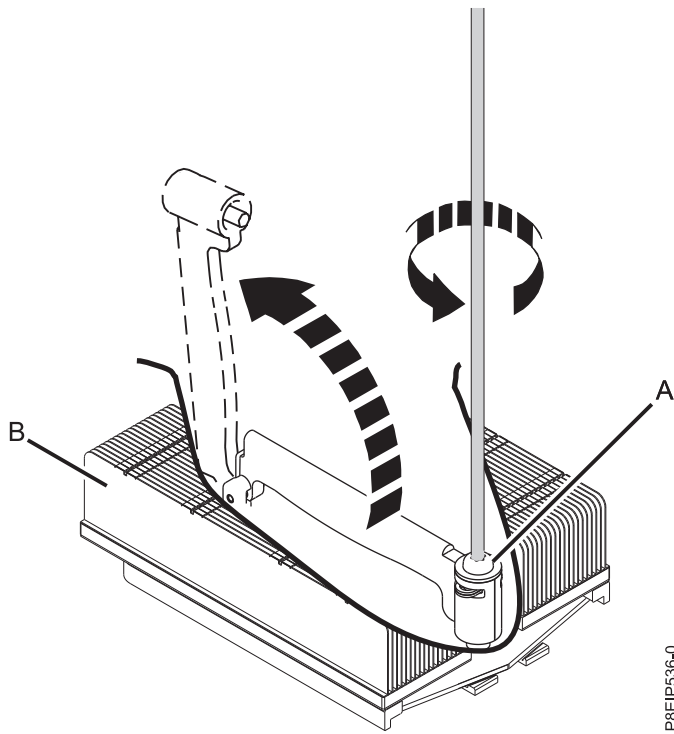

Figure 48. Loosening the load arm screw of the heat sink
4. Loosen the load arm screw **(A)** of the system processor heat sink **(B)** that you are removing with a #3 Phillips screw driver. The load arm pivots up in the direction that is shown in Figure 48 on page 48